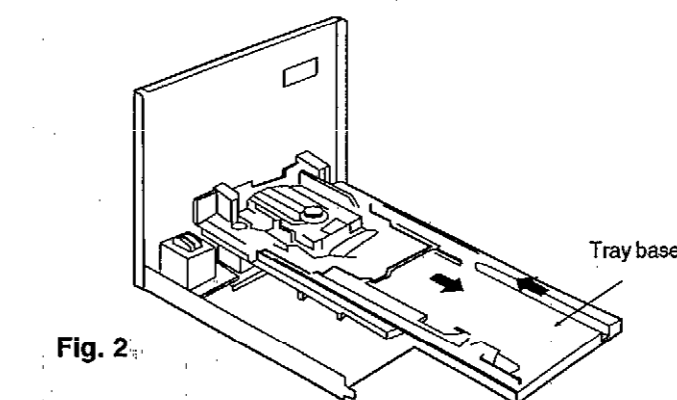

Fig. 2
3. After sliding the tray base in the direction of arrow ①, draw the tray base gradually in the direction of arrow ②. (See Fig. 2.) Slide the tray base until the tray base stops.